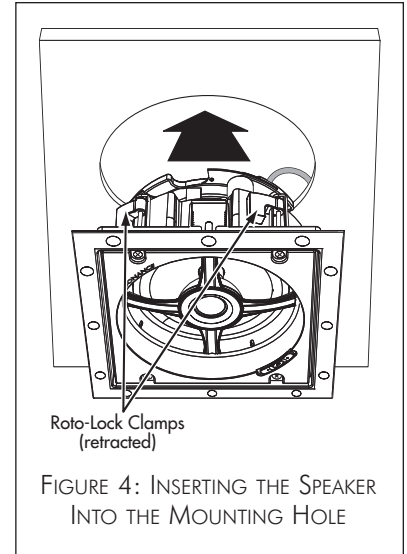
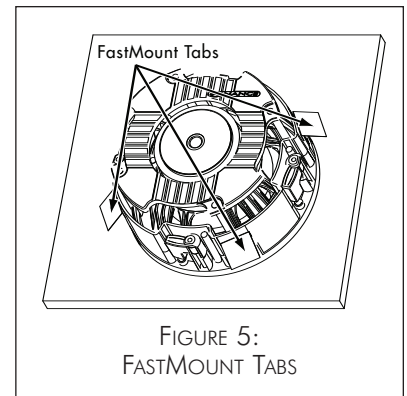

FIGURE 4: INSERTING THE SPEAKER INTO THE MOUNTING HOLE
FIGURE 5: FASTMOUNT TABS
4. Make sure all the Roto-Lock clamps are retracted so that they are tucked within the mounting hole's border. Insert the speaker into the hole in the ceiling (*Figure 4*). The Roto-Lock system can accommodate a maximum ceiling material thickness of 1¼" (32mm). The FastMount tabs will prevent the speaker from falling out of the mounting hole, allowing the installer to let go of the speaker to pick-up tools or other items (*Figure 5*).